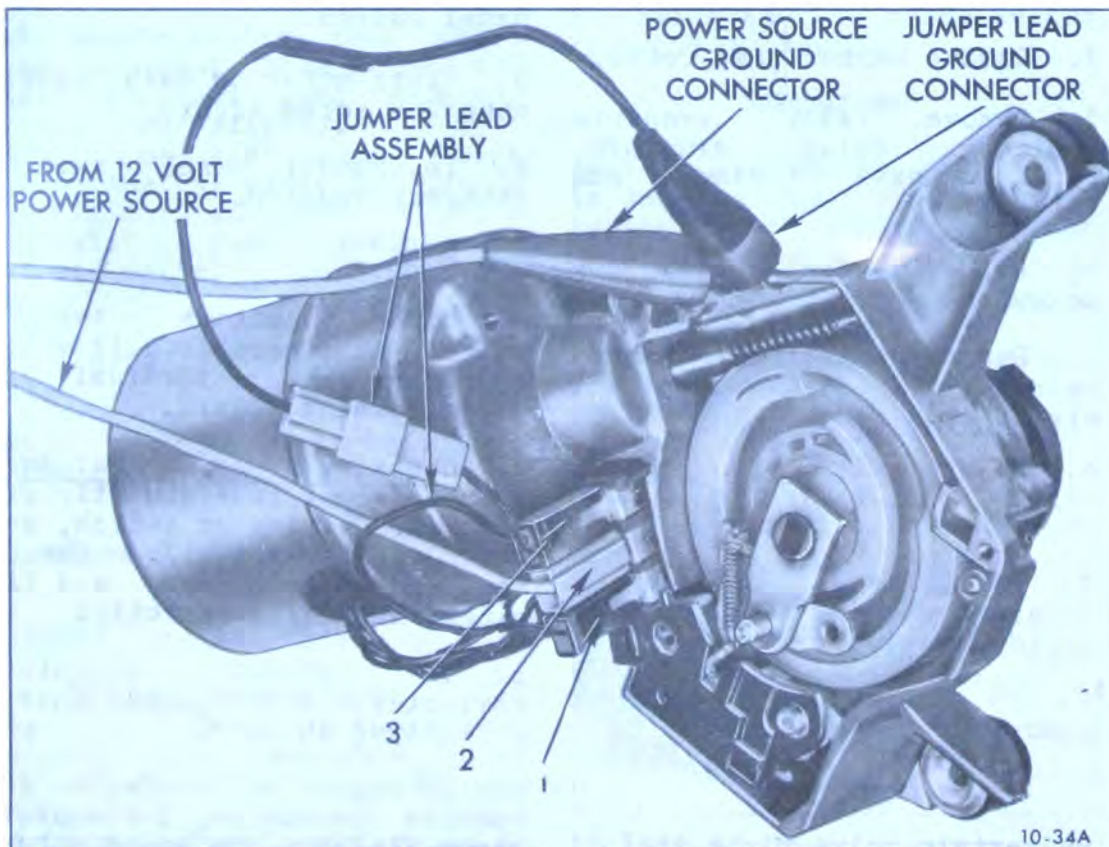

Figure 10-56 Connection to Operate Wiper Out of Car
1. Preliminary Test. Try operating wiper as shown in Figure 10-56. Check if wiper has low speed, high speed, and shuts off correctly.
b. Connect wiper to operate in "LO" speed (Figure 10-56). Connect ammeter (Range 0-30 amps.) in feed wire circuit to wiper and observe current draw. Allow motor to run until it becomes hot.
(1) If current draw is normal (3.5-5 amps. max.) and wiper cycles on and off, a weak circuit breaker is indicated. Replace case and brush assembly.
(2) If current draw exceeds 5 amps. proceed to Steps "c", "d" and "e".